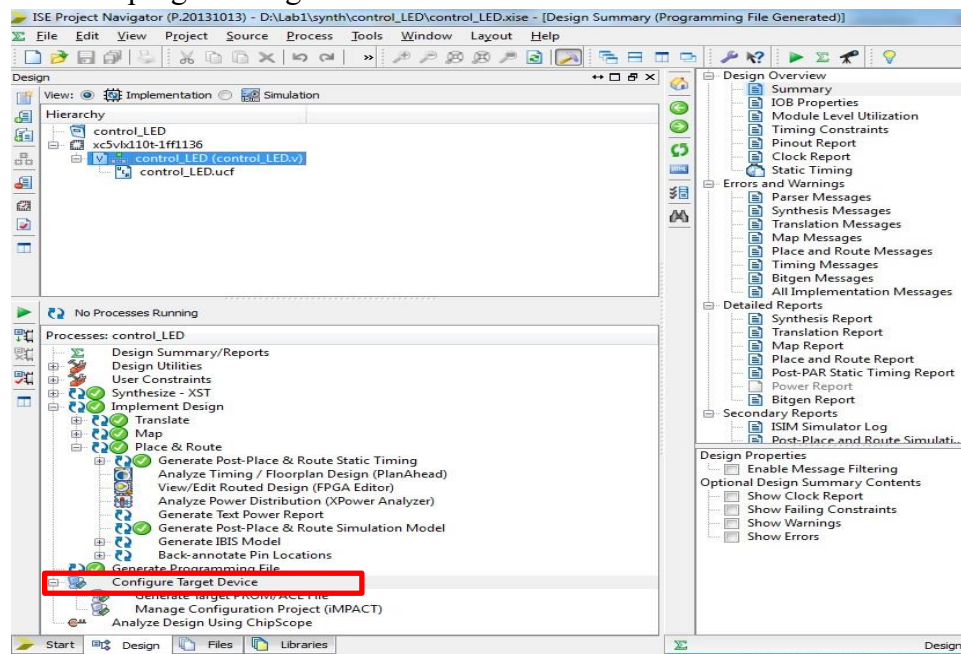

Fig. 10: Configure target device
38. Double click on **Post-Place and Route Model**; a new window will pop up as shown in Fig. 10. You can see a number of signals listed (red box). Except for the top two, the rest are internal signals.
43. Double click **Configure Target Device** (red box) under **Processes** in Xilinx ISE as shown in Fig. 10. Click OK on the resulting dialog box. This will open iMPACT which is Xilinx's tool for programming the FPGA.